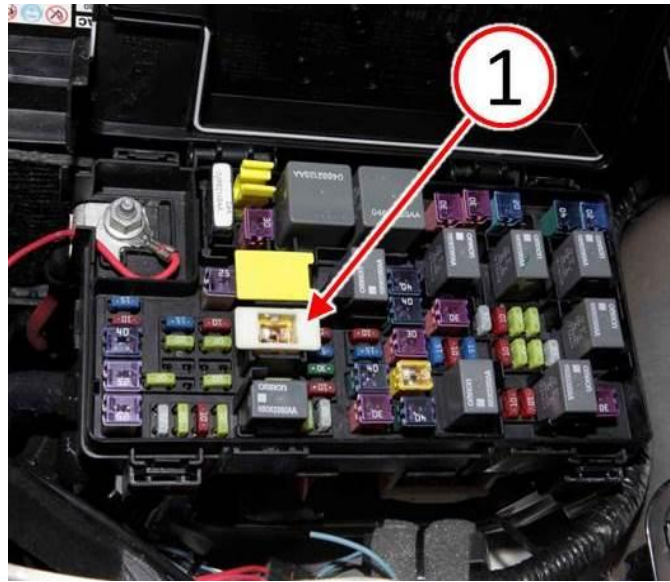

Fig. 1 Ignition-Off Draw Fuse
2. Press the Ignition-Off Draw Fuse (1) down fully inserting the fuse into the Power Distribution Center (PDC) to take the vehicle out of "Ship Mode" (Fig. 1).
- 20. If necessary, place the vehicle back into "Ship Mode" by lifting the Ignition-Off Draw Fuse (1) up disconnecting the fuse from the Power Distribution Center (PDC) (Fig. 1).